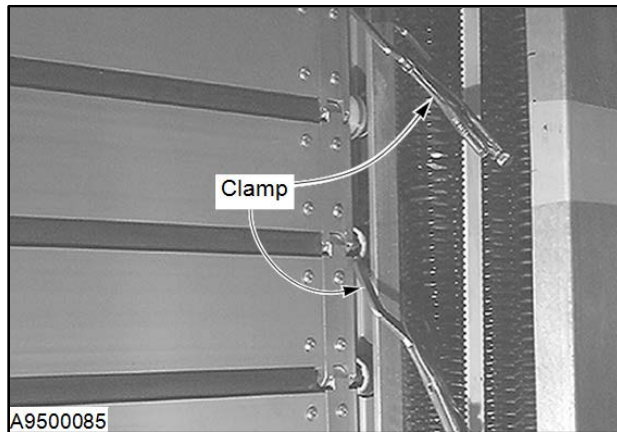

Figure 44
4. Place clamps across the exposed door track to secure the door and prevent it from accidentally falling once belt tension is released. (See Figure 44.)